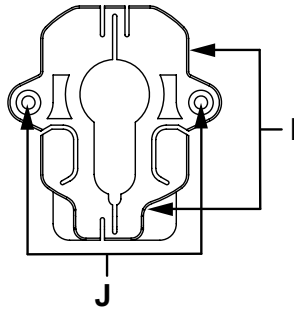

Fig. 7: Base fastener
- Put the base fastener on the protruding part of the lock cylinder (door leaf **(R)**). If necessary, slightly loosen the two screws of the base fastener **(I)** (see fig. 7).